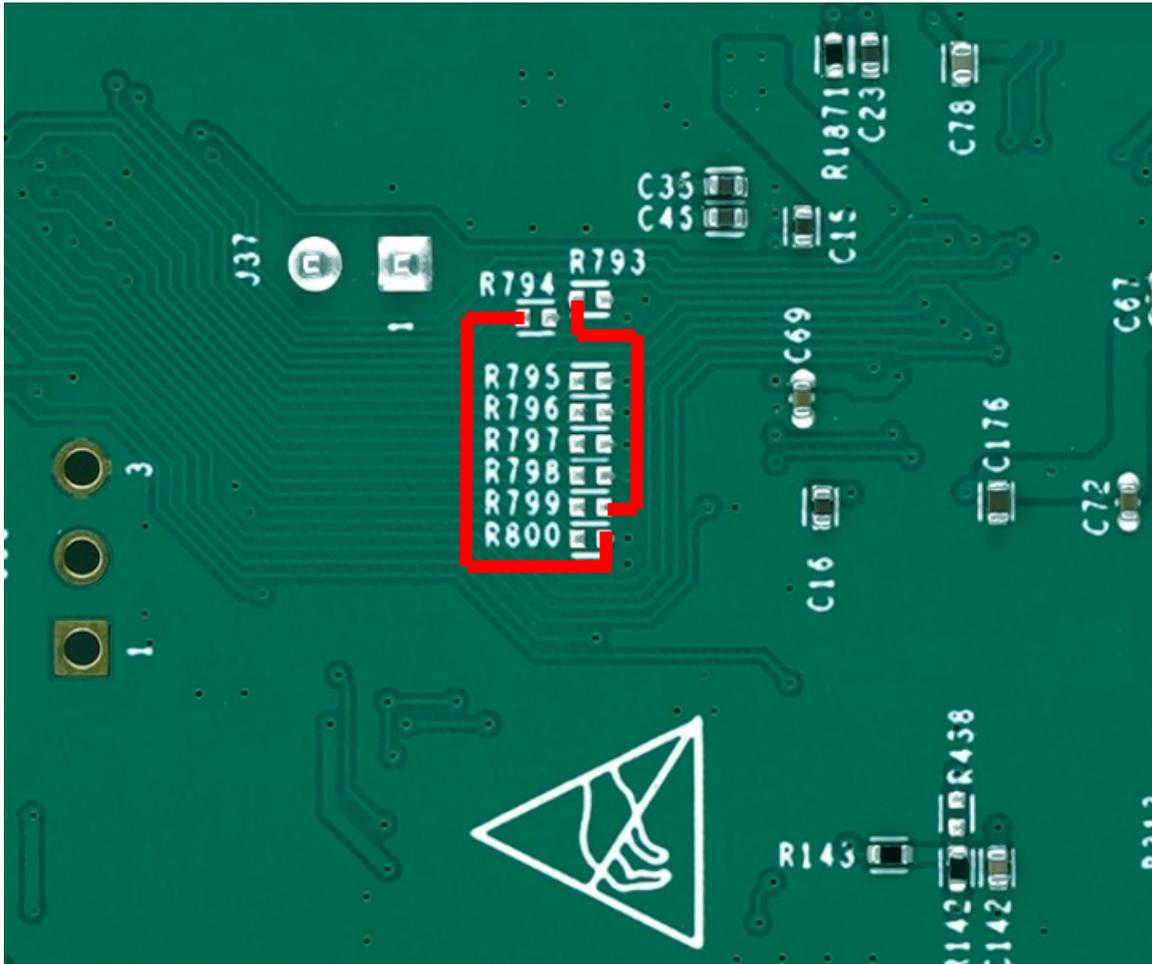

Figure 6. Left pad of R793 connect to Right pad of R799 and Left pad of R794 connect to Right pad of R800
- Left pad of R793 connect to Right pad of R799 Figure 6
- Left pad of R794 connect to Right pad of R800 Figure 6